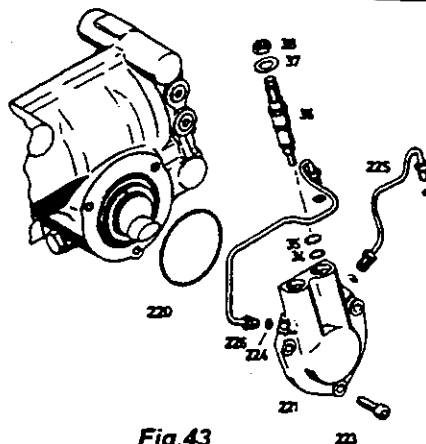

Fig.43
Fit pipes (225 and 226) (see Fig.43) with new O-rings (224).
Insert O-ring (220) (Fig.43).